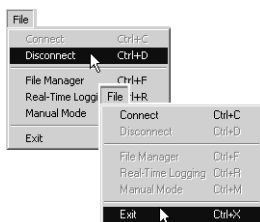

Figure 3-12. Click **Disconnect** then **Exit**
- Once the download completes, click **Exit** on the *File Manager* dialog box. Continue with other operations, or click **File** ► **Disconnect**, then **File** ► **Exit** to quit PC-CDU (Figure 3-12).